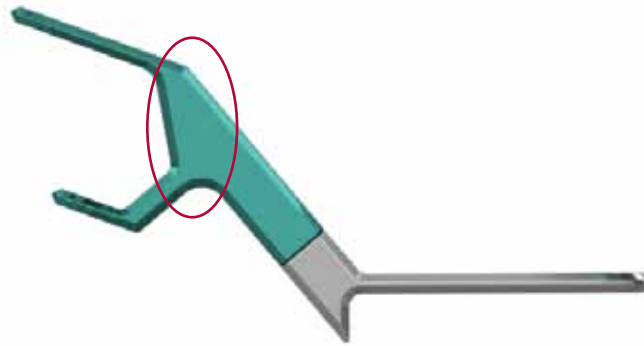

Figure 1
2. Design Solution (Figure 1):